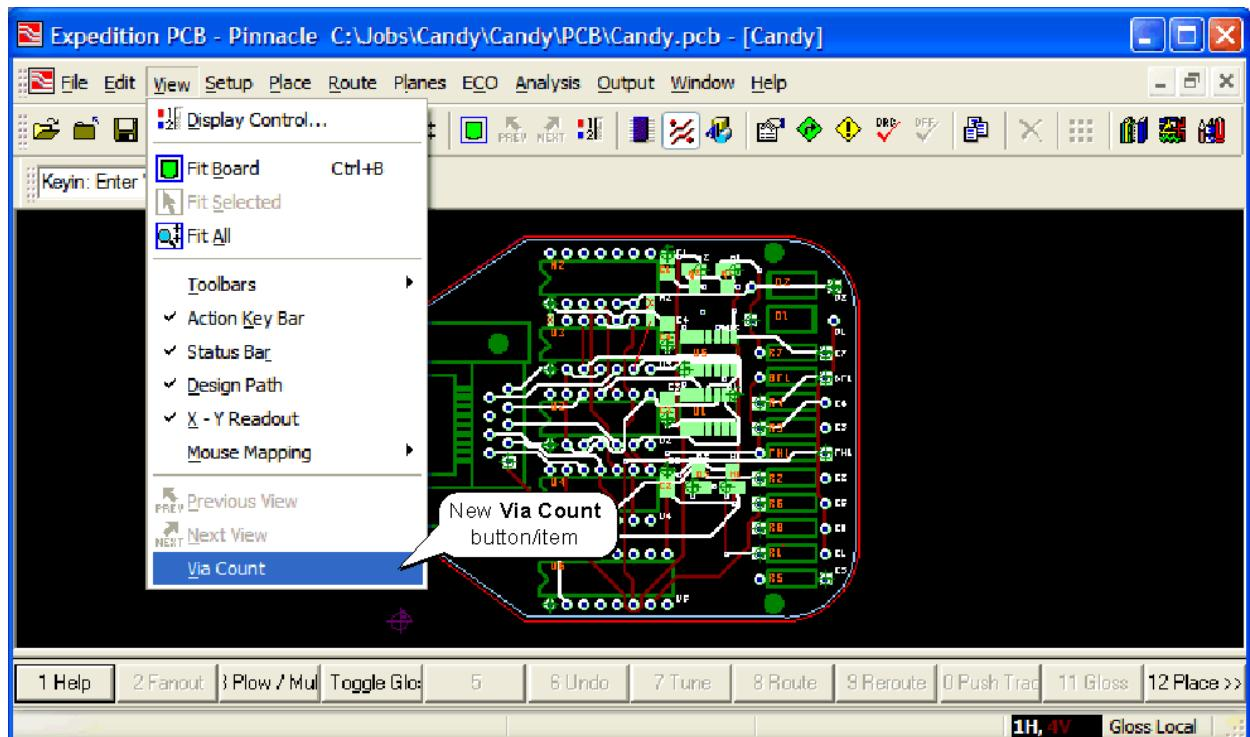
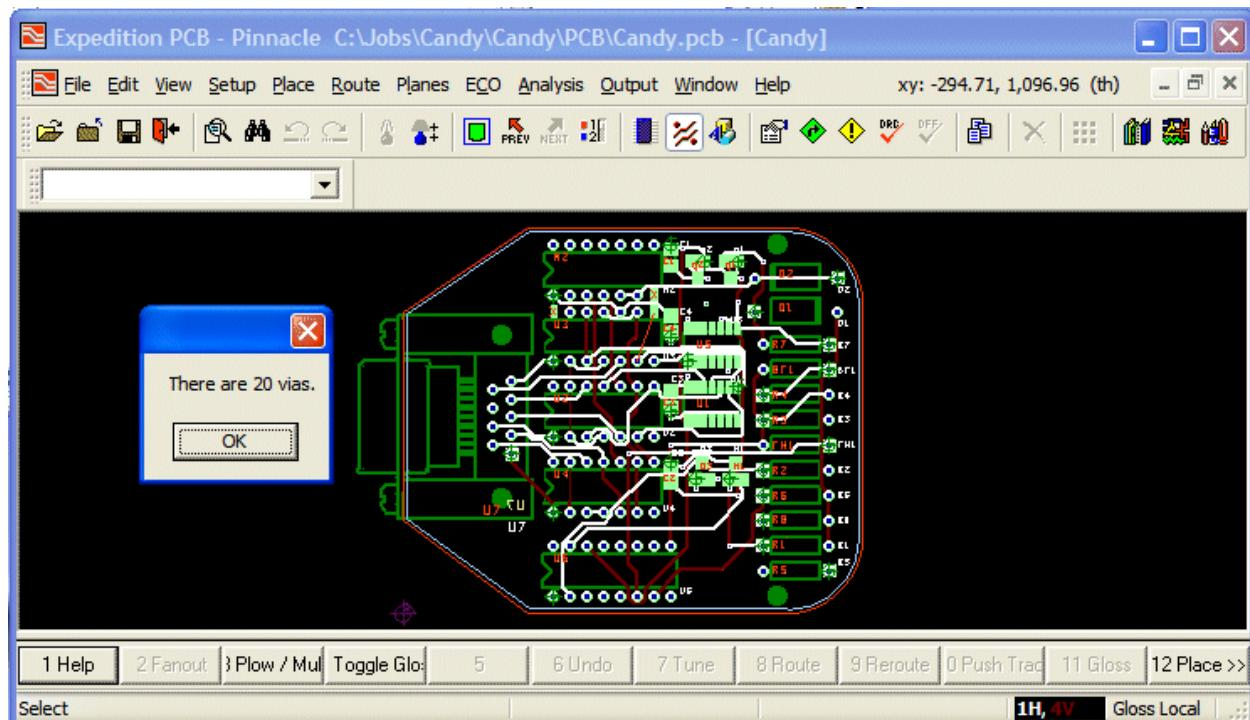

Figure 6-5. The new Via Count button/item.
Figure 6-6. Using the new View > Via Count command.
- 2) At this stage you may open a layout design of your choice, however, you are not obliged to do so – see also point (6).
- 5) As before, once you've run this script it exits and nothing seems to have happened. In reality, of course, this script has established a new menu button/item as illustrated in Figure 6-5.
- 6) As usual, you will want to test this new menu button/item to check that it performs as planned. If you had not already opened a layout design document in point (2), then this would be the time to do so.
- 7) Click the **View** menu item and then select your new button/item and observe that it does indeed count the vias as illustrated in Figure 6-6.